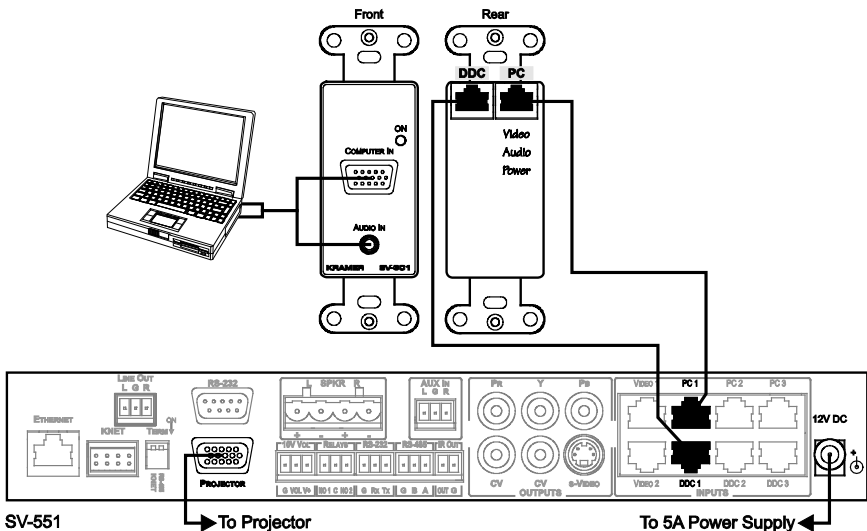

Figure 3: Connecting the SV-301 to the SV-551
**To connect the SV-301, as the example in Figure 3 illustrates (see also the separate color illustration referred to in Section 5.6):**